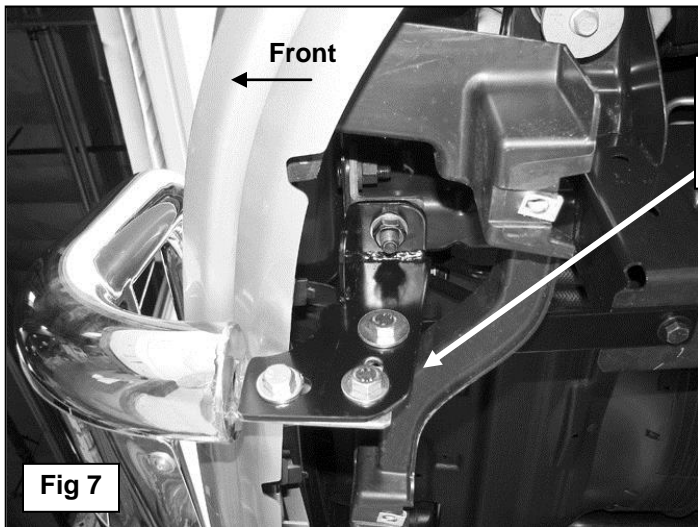

Fig 7
5. With help, position the Bull Bar on the inside of the Mounting Brackets. Use the included (4) 12-1.75mm x 35mm Hex Bolts, (4) 12mm Lock Washers, (8) 12mm Flat Washers and (4) 12mm Hex Nuts to attach the Bull Bar to the Mounting Brackets, **(Figure 7)**. **NOTE:** On vehicles with tow hooks, insert the rear bolt through the tab on the Bull Bar, the Mounting Bracket and through the flat end of the Support Bracket. Snug but do not tighten hardware.
9. Reinstall the Bull Bar described in **Step 5**, **(Figure 7)**.